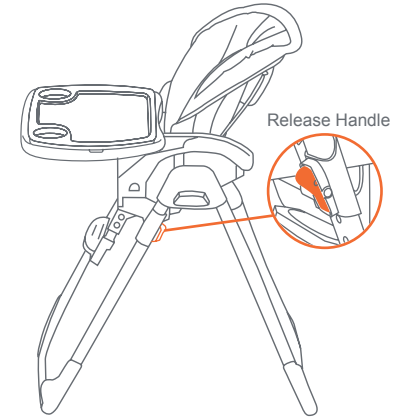
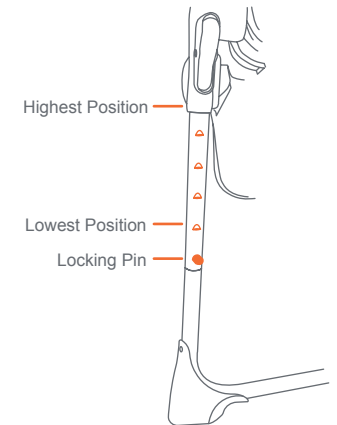

Fig. 13a
Fig. 13b
- 13) • Squeeze the Release Handles on both sides simultaneously of the Height Adjustment bracket (Fig. 13a) and adjust to the ideal position (Fig. 13b).